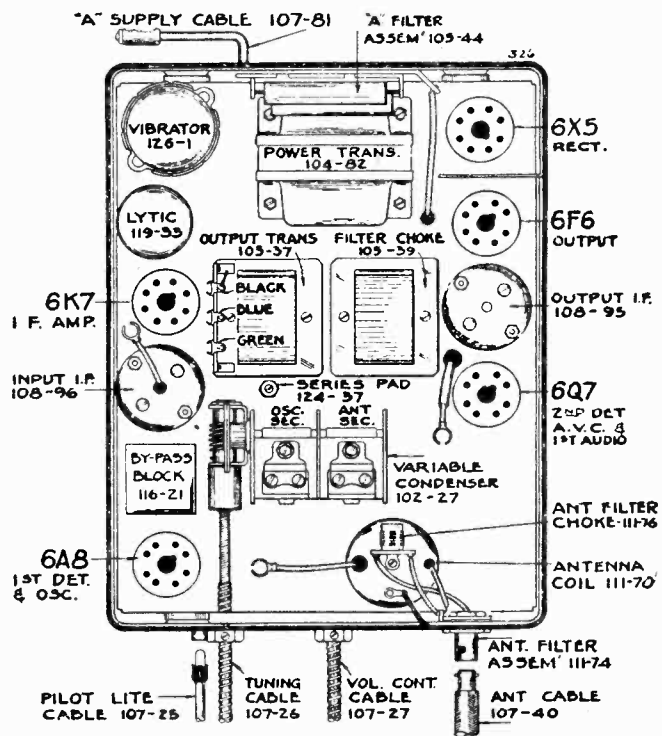

FIG. 2.—TOP VIEW
2. Adjust oscillator trimmer of variable condenser to resonance. (This adjustment is on the section of the gang condenser nearest to the drive—see top view, Fig. 2).
3. Shift test oscillator to 1400 K.C. and pick up signal by rotating condenser and adjust antenna trimmer to resonance (see top view, Fig. 2).